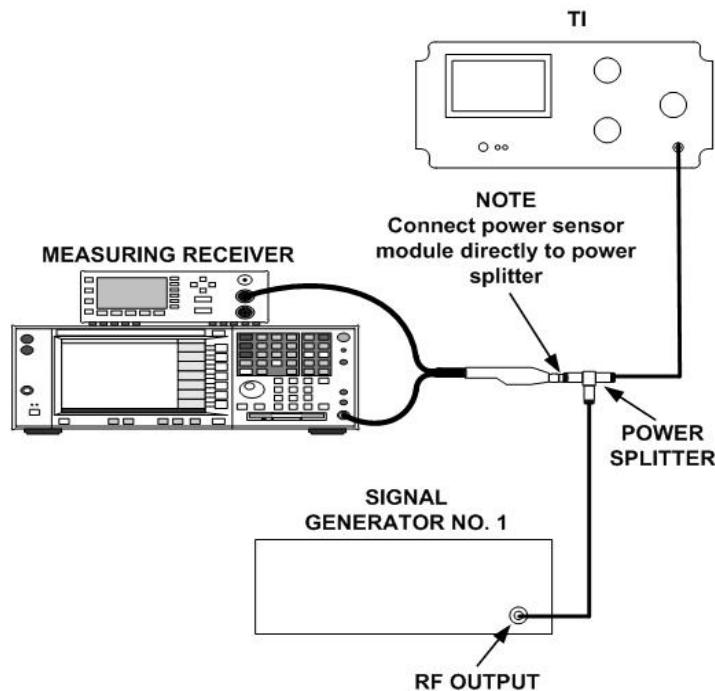

Figure 8. Frequency response setup.
(9) Reduce synthesizer/level generator output to minimum and disconnect synthesizer/level generator **OUTPUT 50Ω** from TI **RF INPUT 50Ω**.
(10) Zero and calibrate the measuring receiver power sensor module.
(11) Connect equipment as shown in figure 8 below.